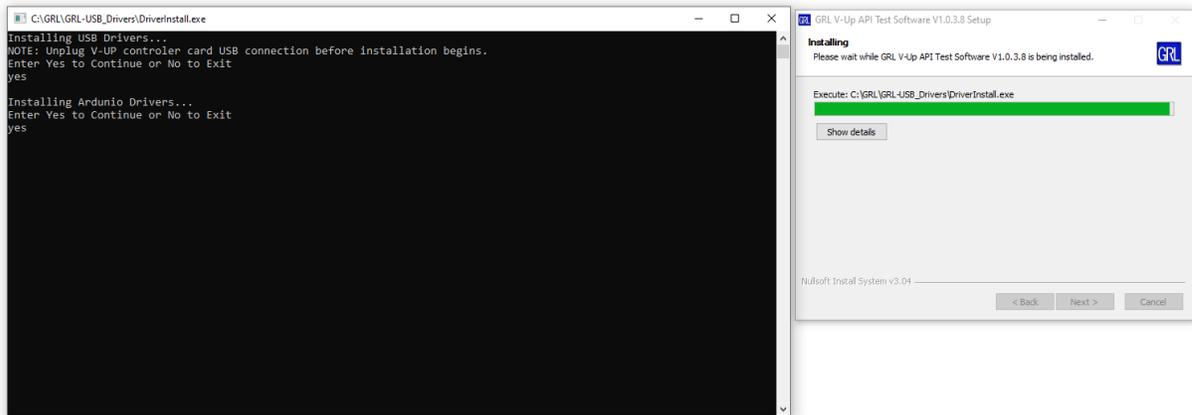

Figure 12. GRL-V-UP Arduino Drivers Installation in Progress
8. When prompted for GRL-V-UP Arduino driver installation as shown in Figure 12 below, type “YES” and press the “Enter” key to install the drivers.